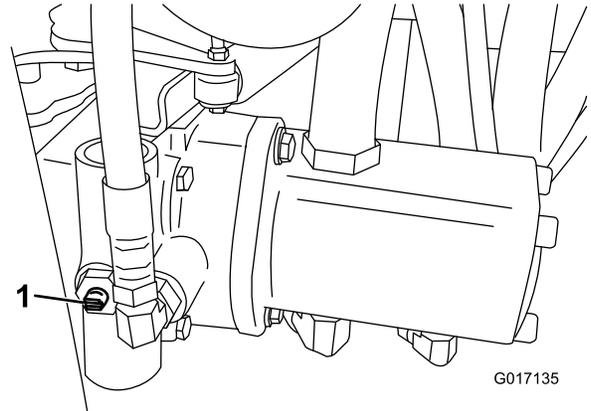

Figure 25
1. Locate the bypass valve on the pump and rotate it so that the slot is vertical (Figure 25).
2. Before starting the engine, close the bypass valve by rotating it so that the slot is horizontal (Figure 25). Do not start the engine when the valve is open.